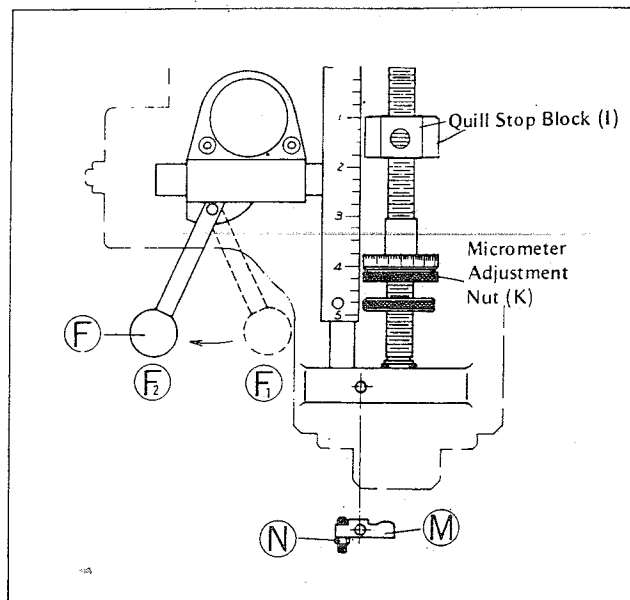

FIG.14
Bring guill stop block (1) (Fig.14) at least 5mm downward from the high end position before engage feed control lever (F).